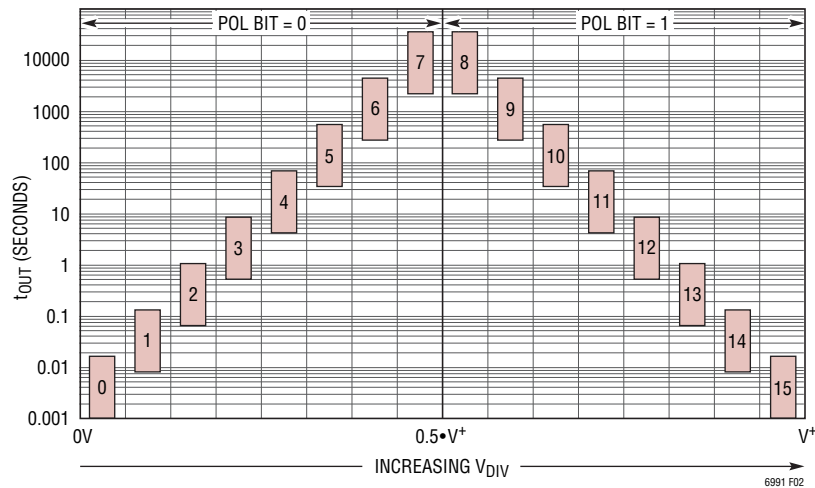

Figure 2. Frequency Range and POL Bit vs DIVCODE
**Note 5:** See Operation section, Table 1 and Figure 2 for a full explanation of how the DIV pin voltage selects the value of DIVCODE.
Figure 2 illustrates the information in Table 1, showing that  $N_{DIV}$  is symmetric around the DIVCODE midpoint.